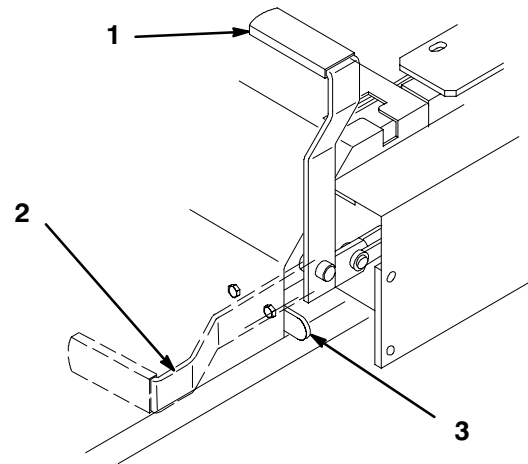

Figure 13
2. Pull back and up on the parking brake lever to set the parking brake (Fig. 13). The parking brake lever should stay firmly in the “ENGAGED” position.
1. Push forward and down on the parking brake lever to release the parking brake (Fig. 13). The parking brake is “DISENGAGED” and the lever rests against the brake stop.